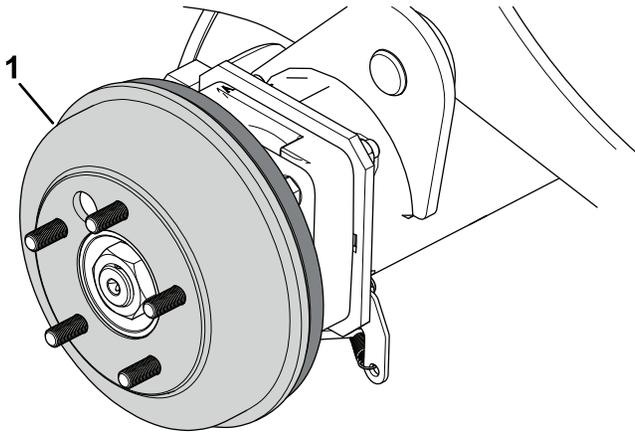

Figure 76
4. Remove the brake drums (Figure 76) by hand.